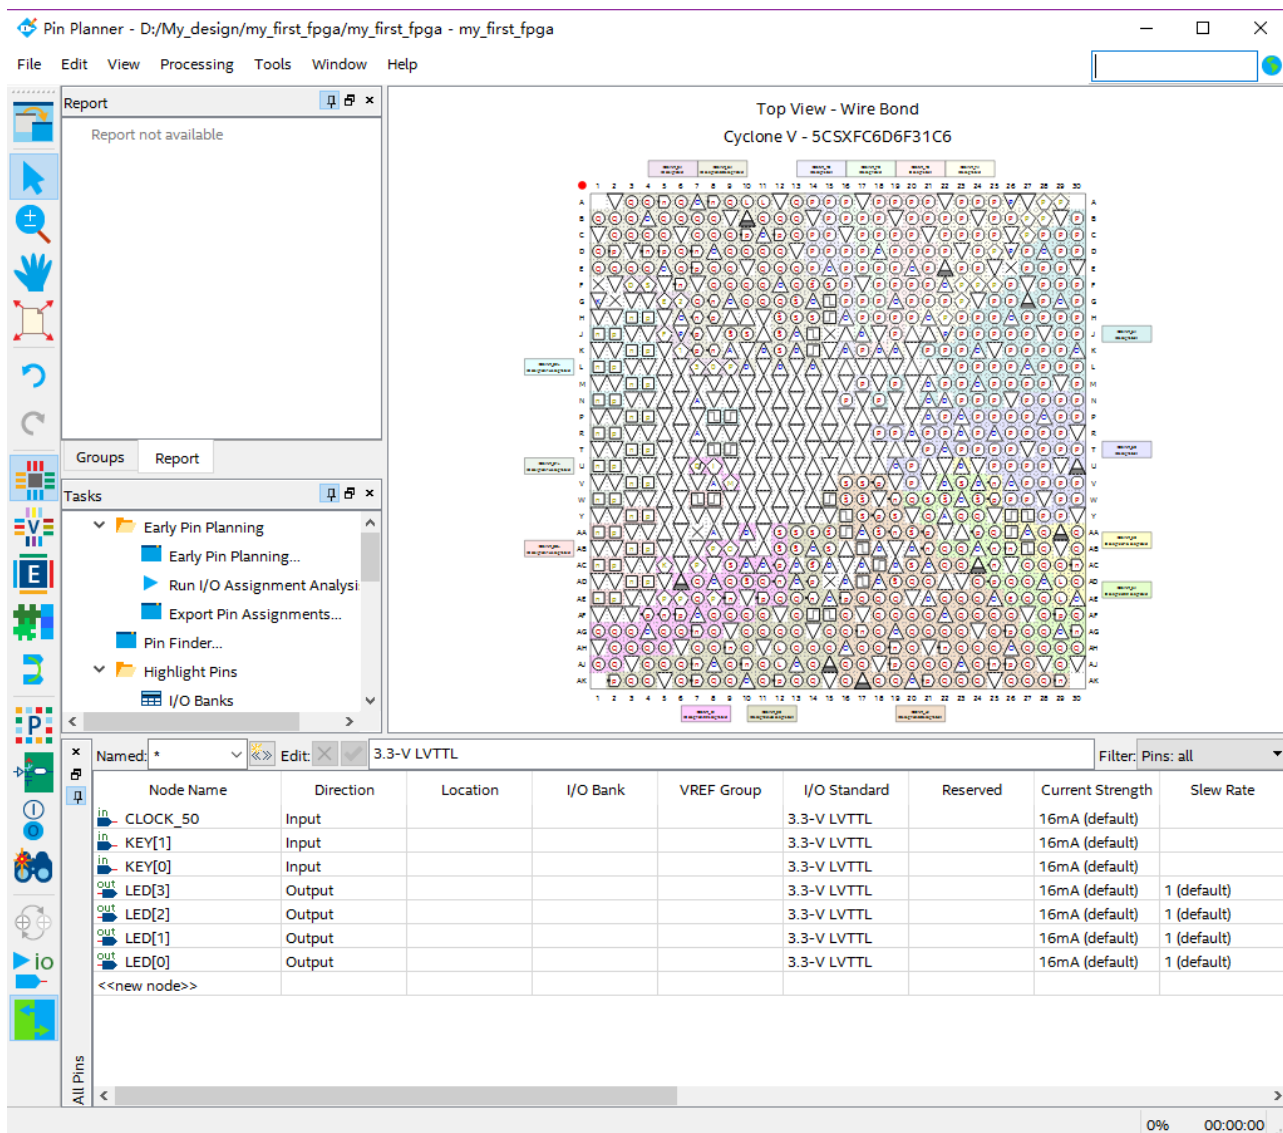

Figure 3-32 Pin Planner Example
1. Choose Assignments > Pin Planner, which opens the Pin Planner, a spreadsheet-like table of specific pin assignments. The Pin Planner shows the design's six pins. See **Figure 3-32**.